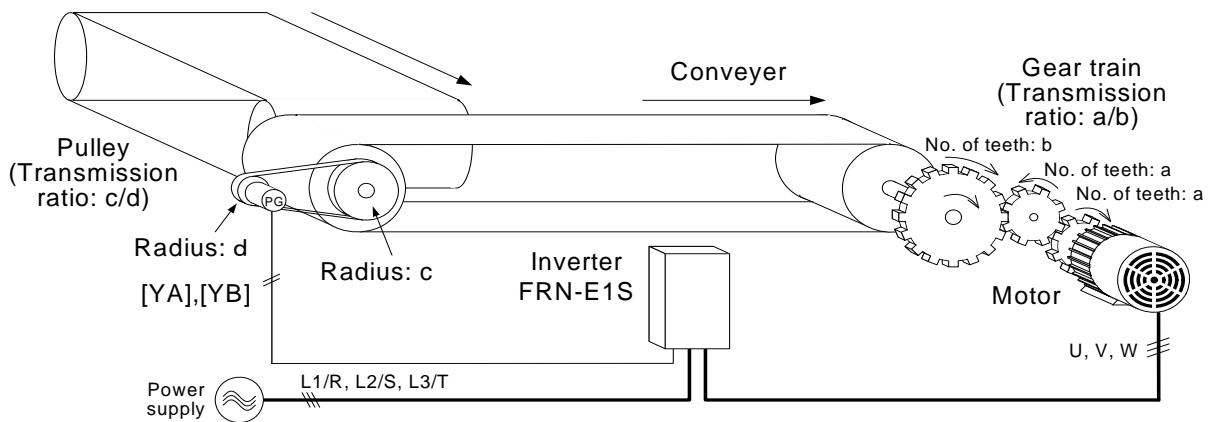

Figure 6.1 Speed Control Model Using a PG
Use these function codes when the motor shaft speed differs from the encoder (PG) shaft speed depending upon a transmission reduction ratio. Refer to Figure 6.1 and the expressions below for calculation of the count factors.